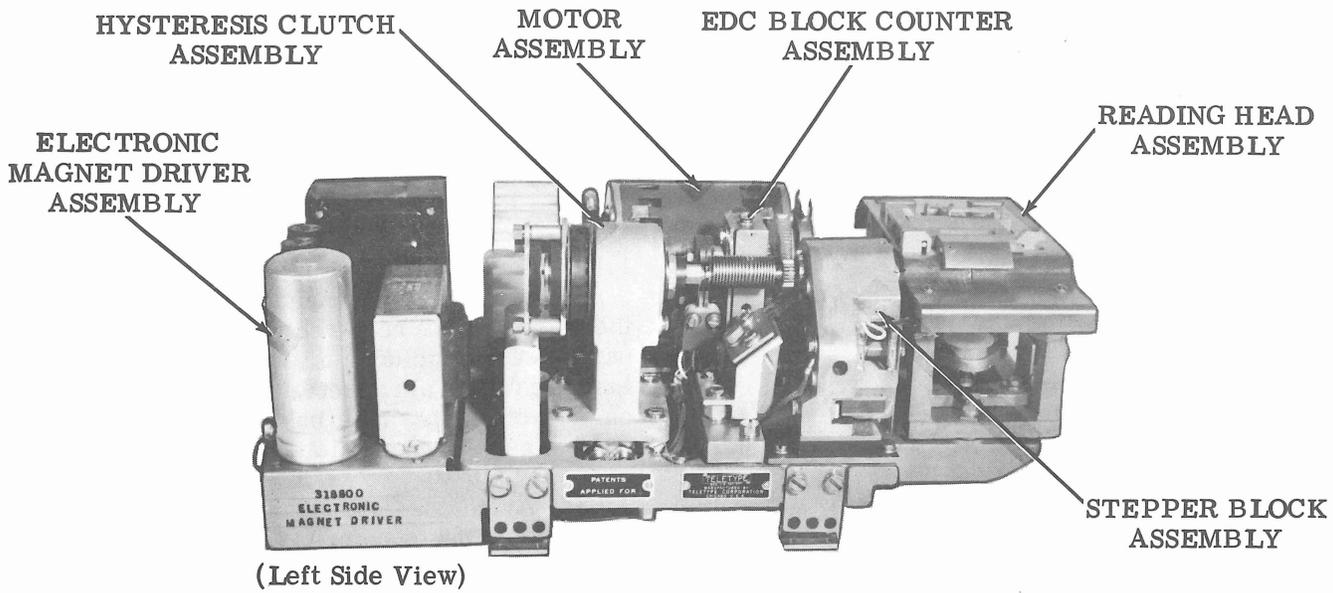

Figure 1 - Major Subassemblies of High Speed Tape Reader (DX4)
2. DISASSEMBLY SEQUENCE (Figure 1)
(Figures 1, 2, and 3)